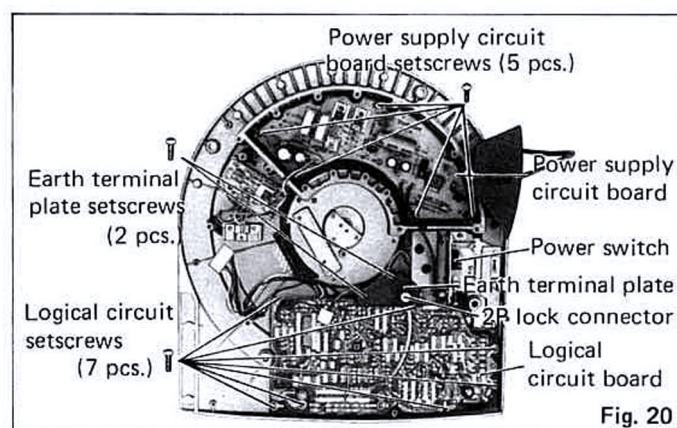

Fig. 20
**How to remove power supply circuit board and logical circuit board** (See Fig.20.)